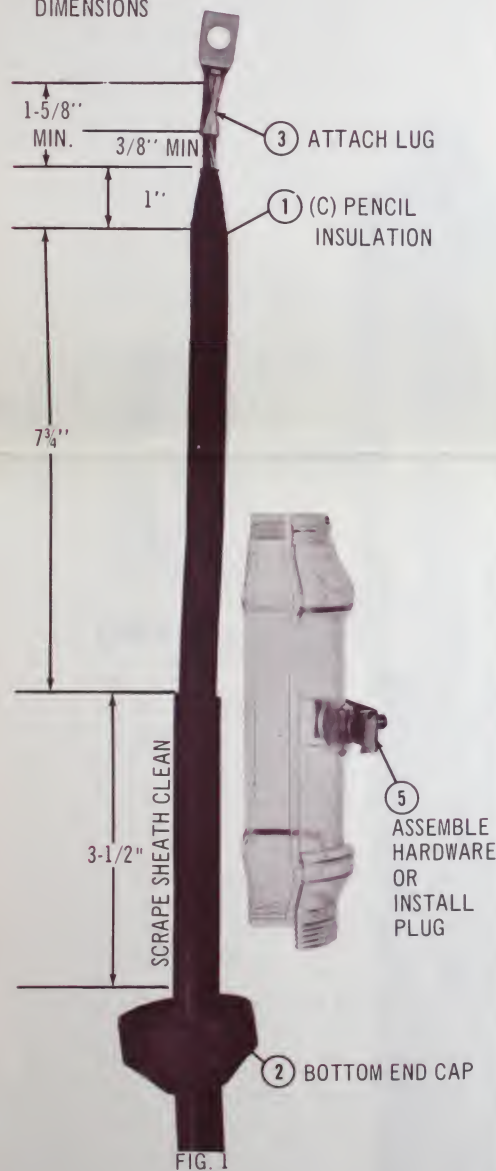

FIG. 1
① CABLE PREPARATIONS - Use exact dimensions shown at right of Fig. 1.
(c) **PENCIL INSULATION** - Remove insulation on conductor as shown in Fig. 1. Pencil insulation to prescribed length.